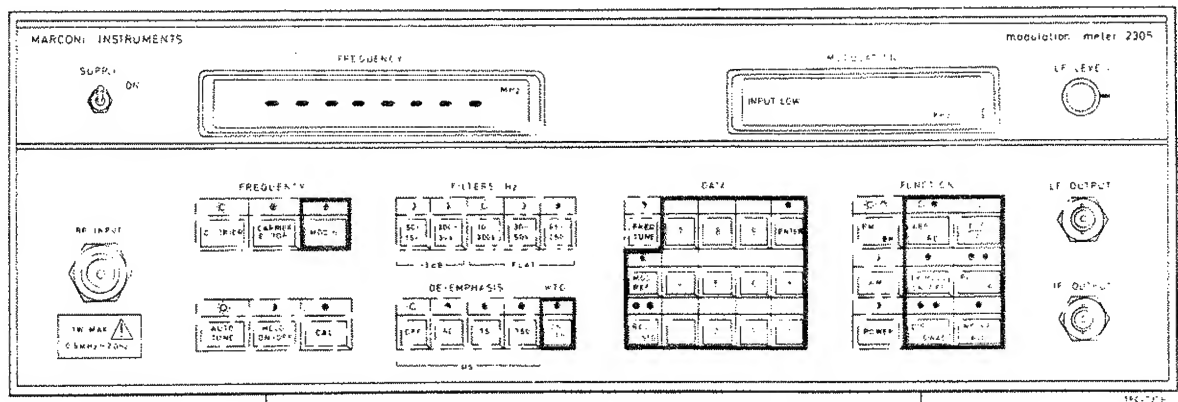

Fig. 3 Keys still useful when measuring external l.f. signals
6. The keys shown in the keyboard illustration of Fig. 3 retain their functions and may be used with external l.f. signal measurements. In particular, all the detector modes are available and reference quantities may be entered for relative measurements.